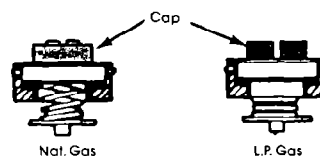

Figure 3
2. Remove the cap with screwdriver slot and turn it over. Replace the cap. This cap will then have the marking "LPG10." Do Not disturb or remove the spring beneath this cap. See Figure 3.